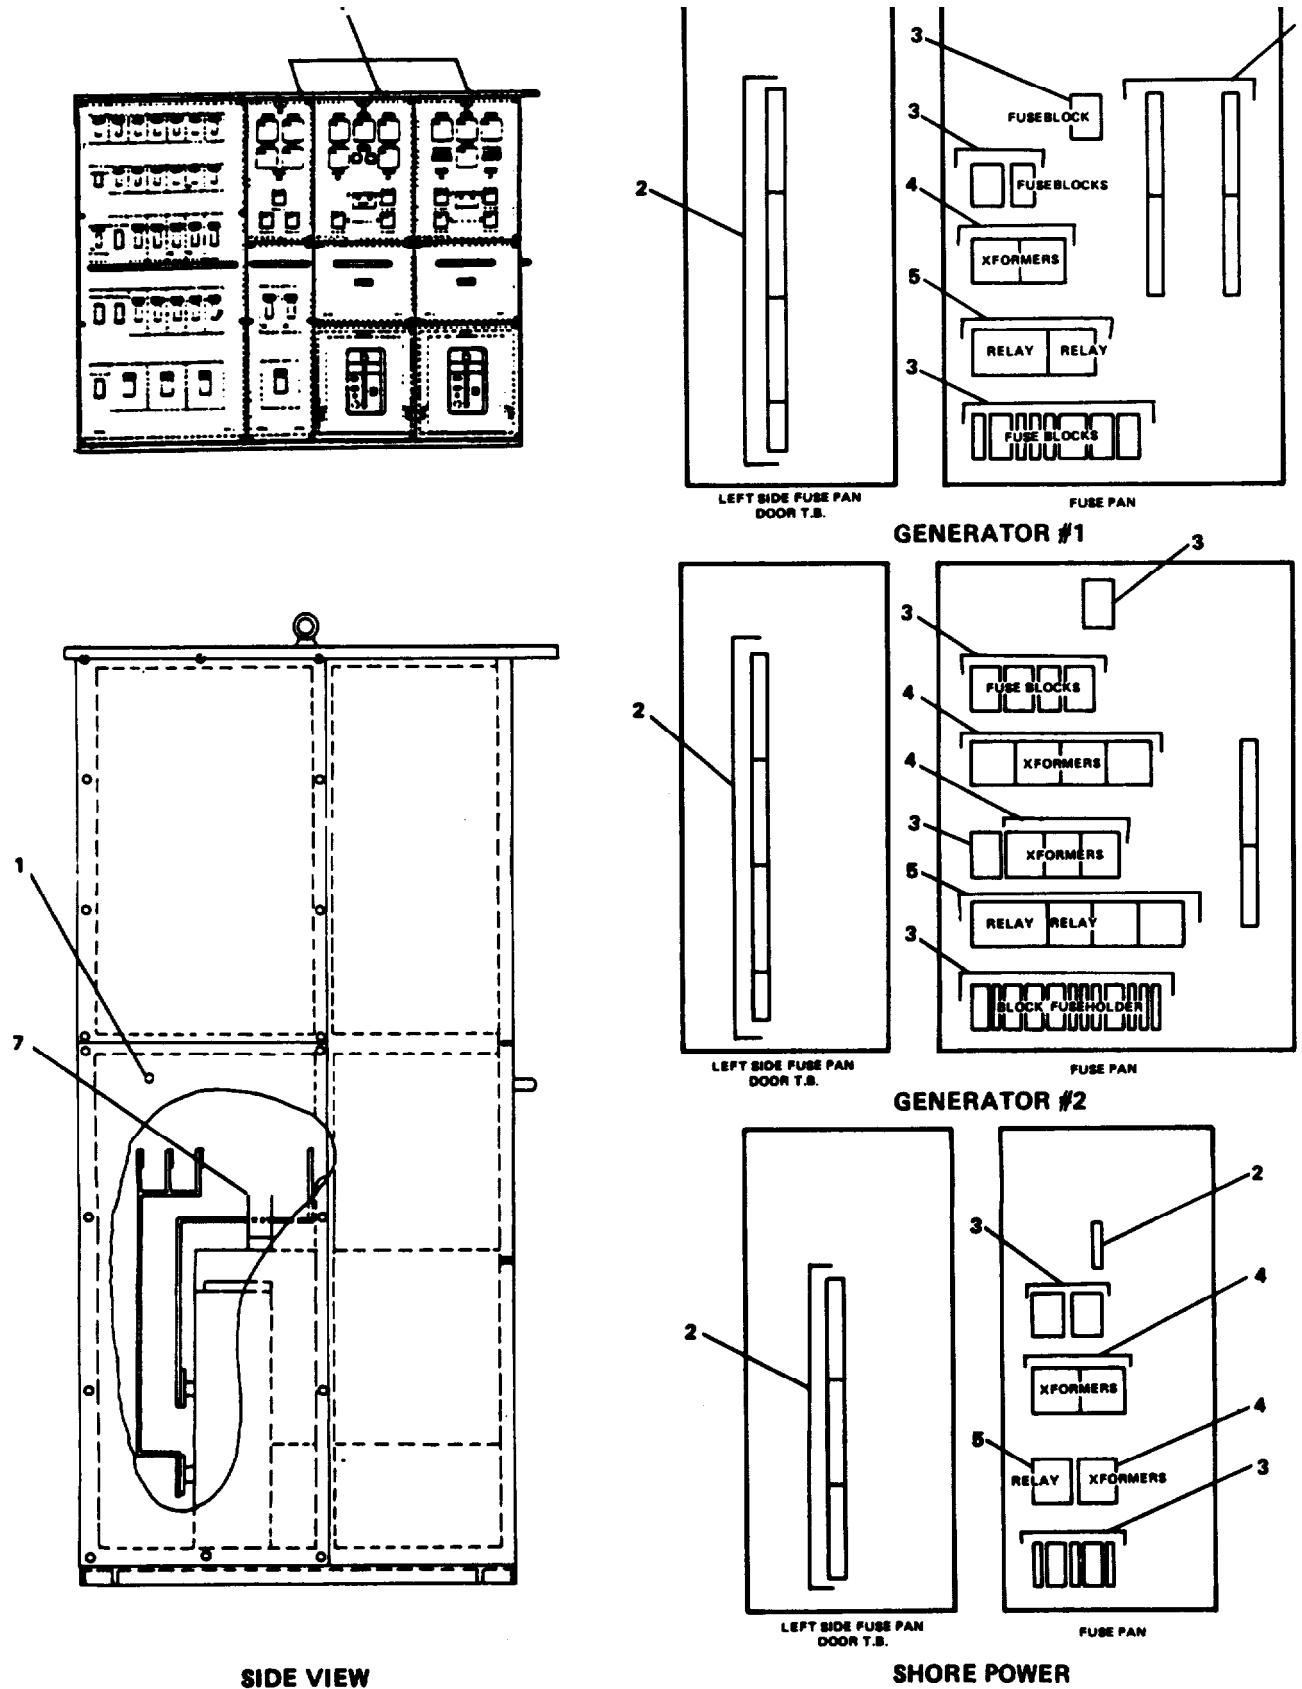

FIGURE 2-218. Ship Service Switchboard Fuse Pan.
**2-297. Repair Ship Service Switchboard Fuse Panel. (FIGURE 2-218)**